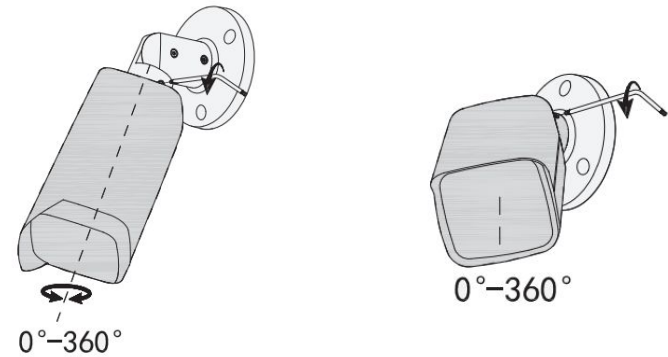

Figure 2-3
Step 4 Use the wrench included with the camera to loosen the tension screw on the camera body. This will allow rotational movement of the camera body. Tighten the screw when the camera is set to the proper angle. See Figure 2-3.